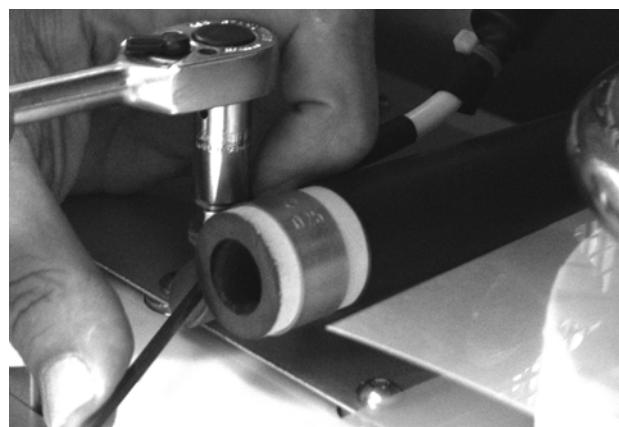

Figure 64: Connecting the HV power supply cable
13. Use the 3 mm allen key and 7 mm socket wrench to connect the HV power supply cable (see Figure 64).